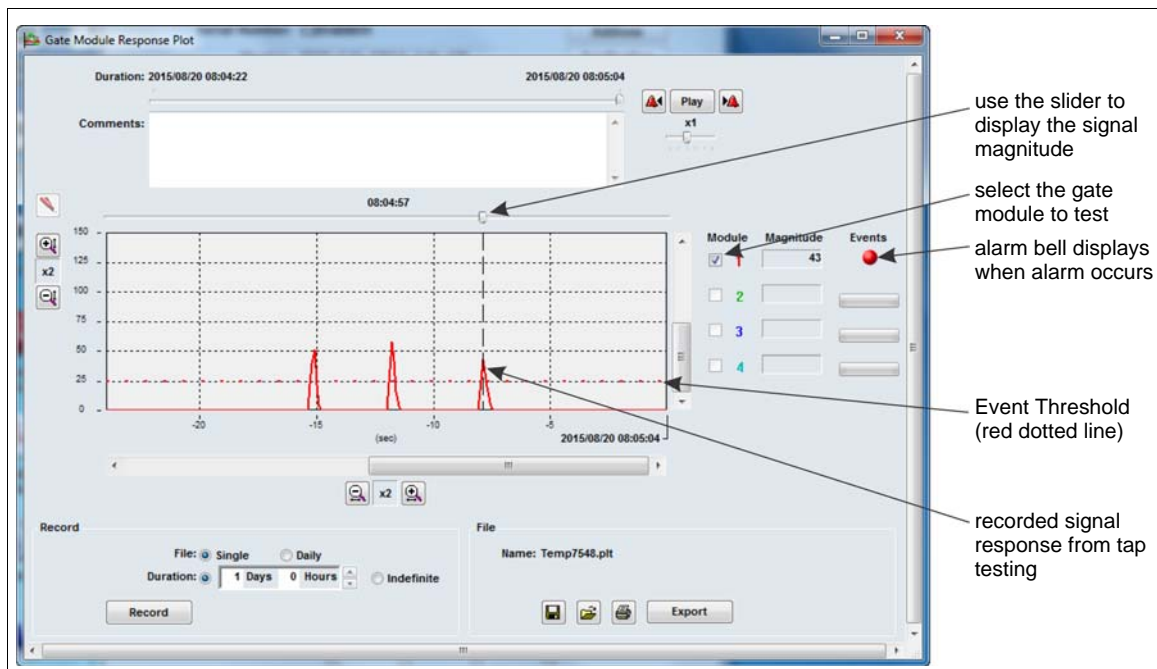

Figure 16: Gate sensor module response plot window
5. Select the Magnitude Response Plot button to open a plot window (see Figure 16).